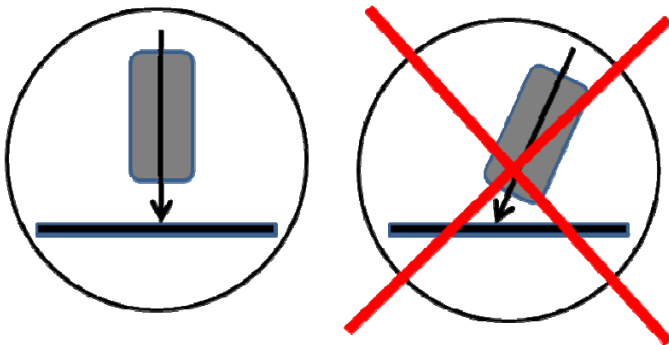

Figure 1: Apply load perpendicularly.
- 4. **Warning:** All loads applied must be perpendicular to the surface of the sensor (see Figure 1).